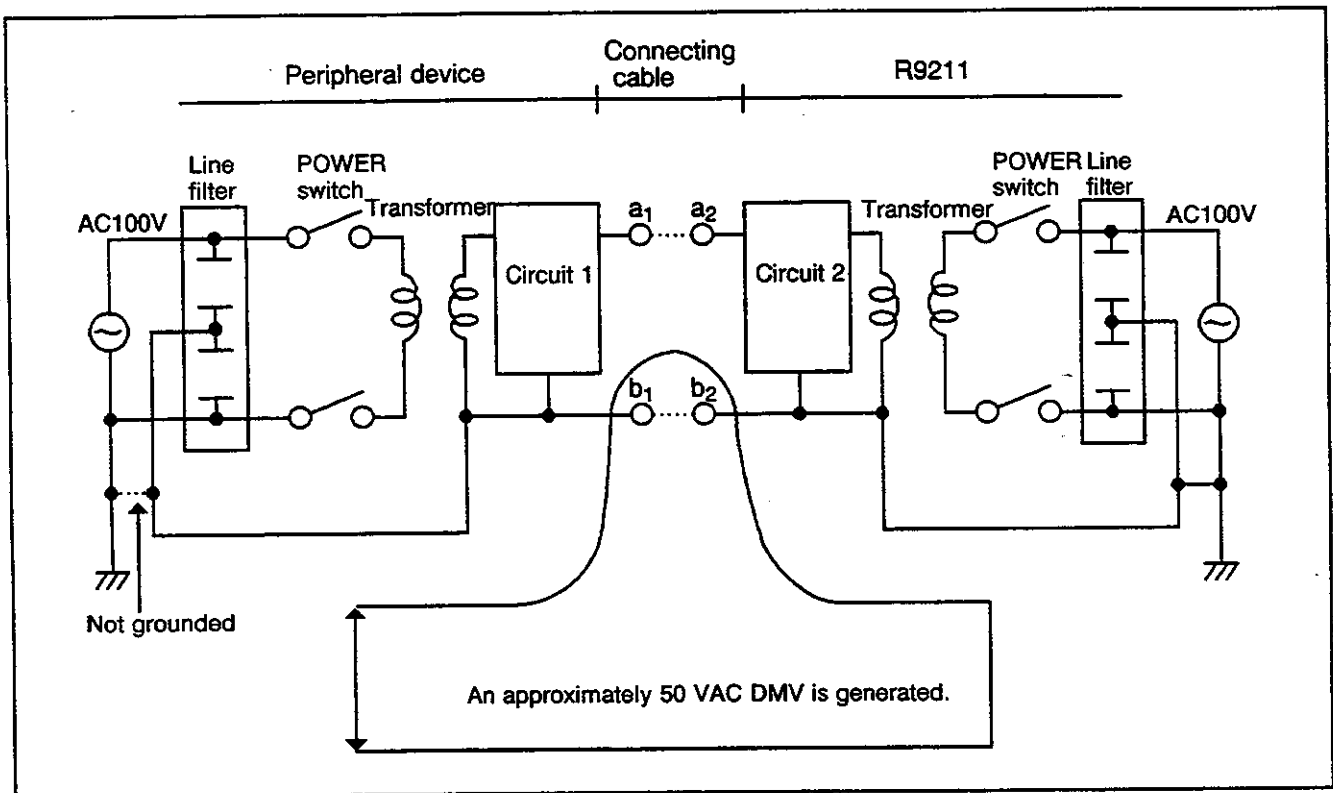

Figure 1-4 CMV Looping of the Power Supply Line
- (1) Peripheral devices such as a desk-top computer or a plotter can be connected to this unit. To protect circuit elements, pay attention to CMV (Common Mode noise Voltage) generation caused by improper grounding.
- (2) When a power supply line is not grounded, the loop formed as shown in Figure 1-4 approximately generates a 50 VAC voltage (CMV) between outlets a1 and a2 and between b1 and b2. If the circuit between grounding plugs b1 and b2 is opened and the circuit between signal outlets a1 and a2 is closed, input/output circuit elements of circuits 1 and 2 may be destroyed or damaged. To prevent this, use a properly grounded power supply line. Switching on/off the unit by inserting or removing the power supply plug will generate the similar CMV. Use the POWER switch to power on/off the unit.
- (3) If it is unavoidable to use an ungrounded power supply line, insert the power cable plug after connecting the ground outlet and signal cable. Then, set the POWER switch to ON.